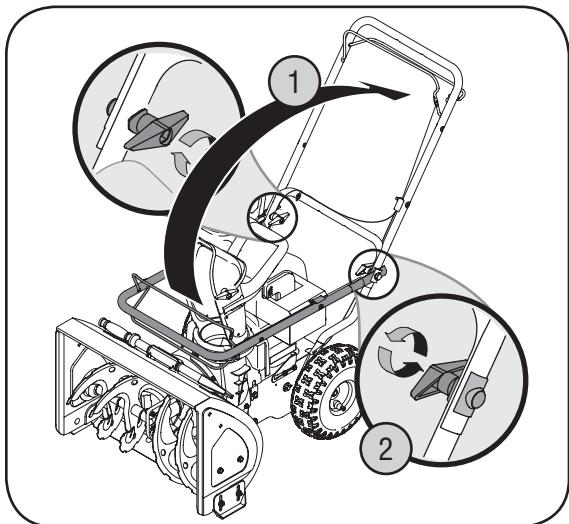

Figure 3
3. Hold both controls against upper handle and pull up as shown in Step 1 of Figure 3. Make sure that the upper handle locks over the lower handle and handle tabs align with the handle. You may have to carefully maneuver the upper handle to clear chute assembly.